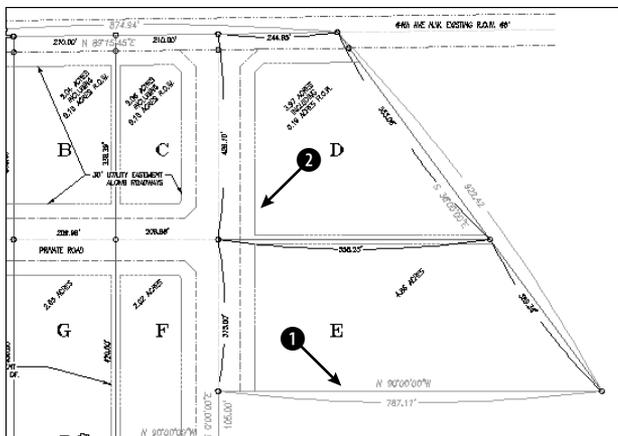

Figure 12-13: The site plan zoomed in to parcels D and E.
2. If you didn't do the previous exercise, use ZOOM Window to zoom in to the parcels labeled D and E, as shown in Figure 12-13.
4. Choose Draw ⇨ Point ⇨ Divide. At the Select object to divide: prompt, choose **1** in Figure 12-13. At the Enter the number of segments or [Block]: prompt, type **3** ↵. The command places two points along the line, dividing it into three segments. (If you want, draw lines from the points perpendicular to the opposite side of the parcel to divide it into three parcels.)
5. Choose Draw ⇨ Point ⇨ Measure. At the Select object to measure: prompt, choose **2** in Figure 12-13. At the Specify length of segment or [Block]: prompt, type **120** ↵ (10 feet). The command places two points along the line.